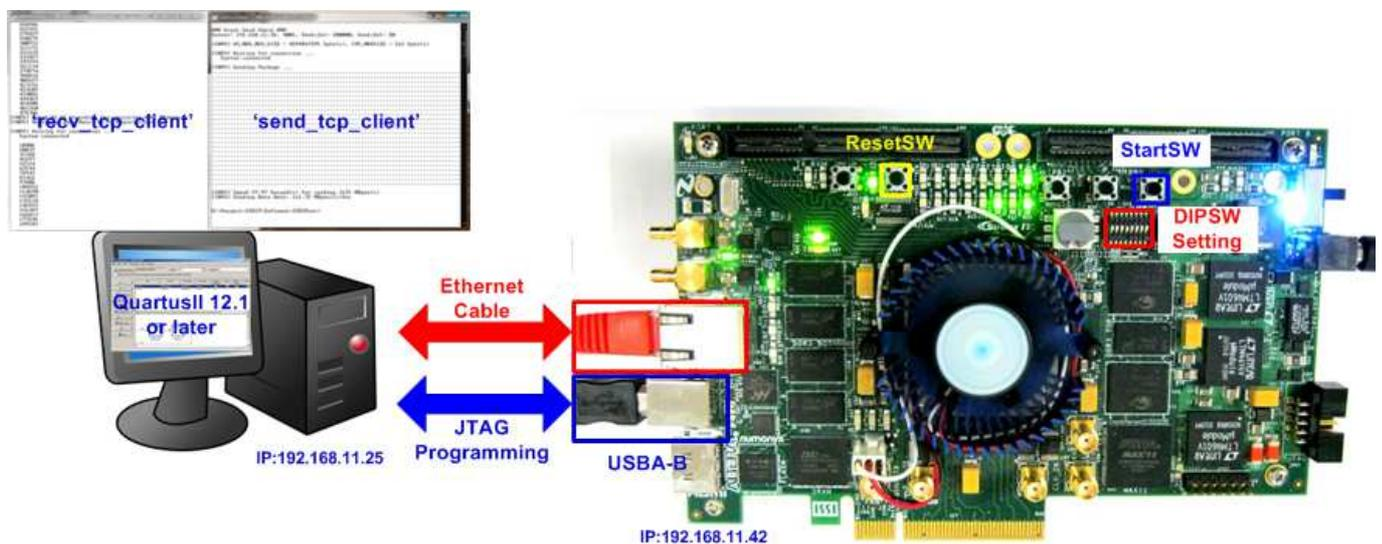
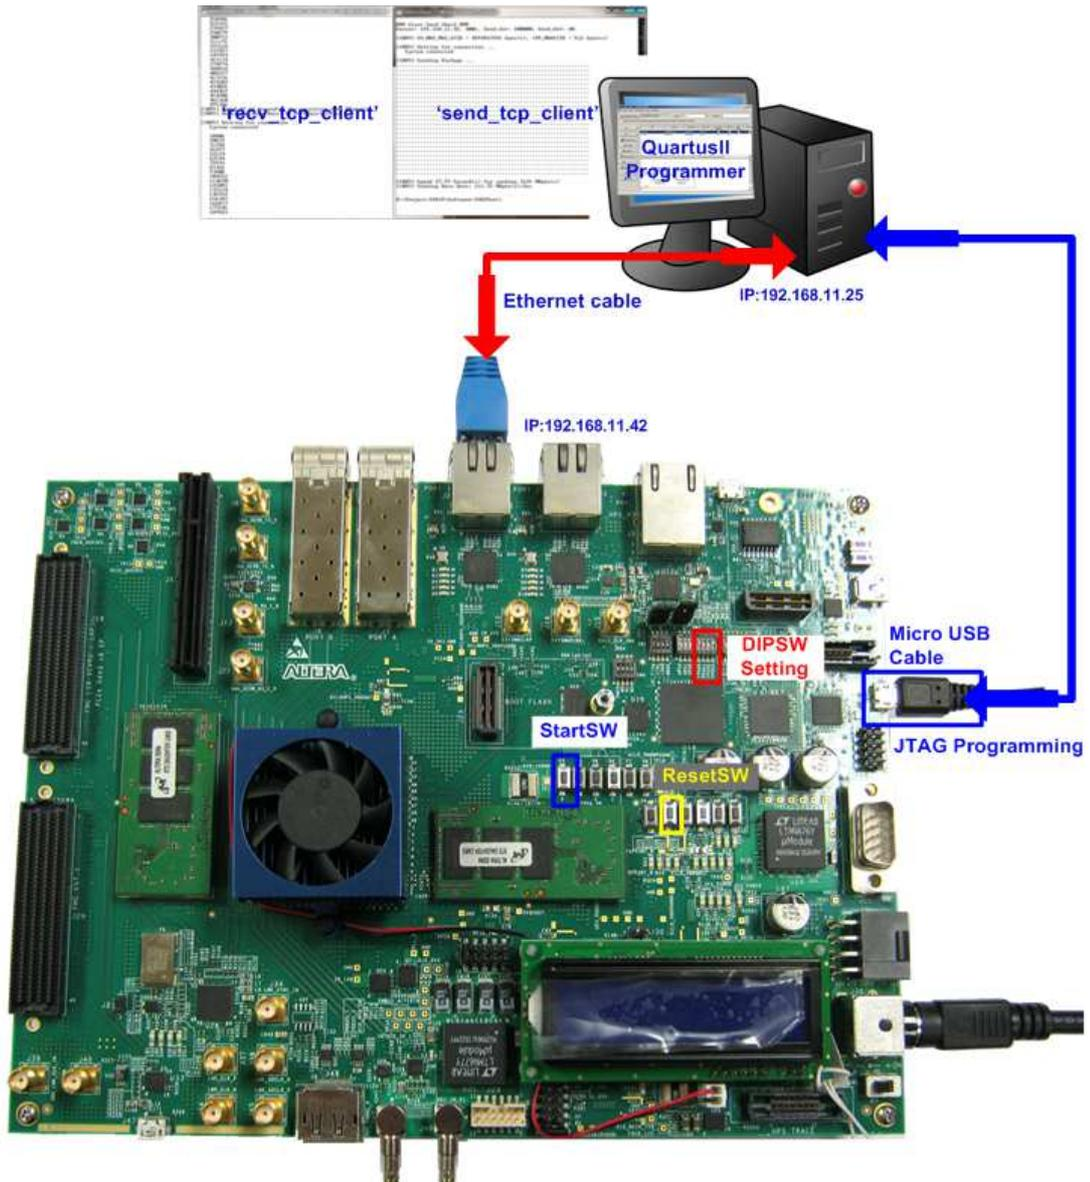
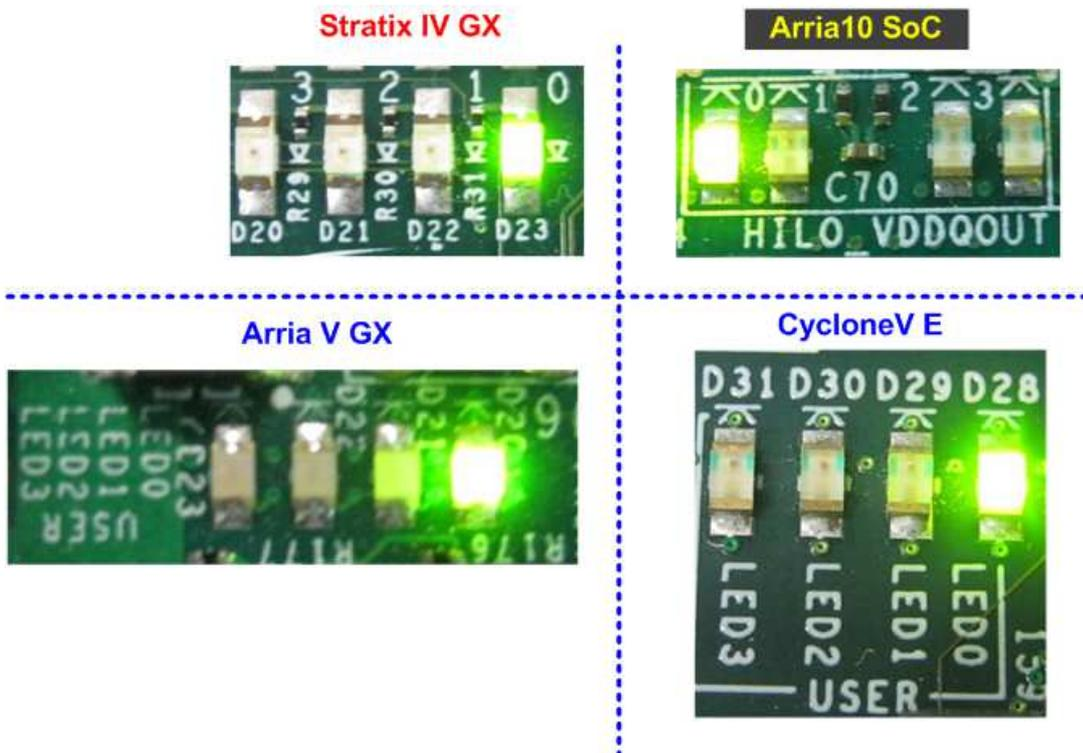
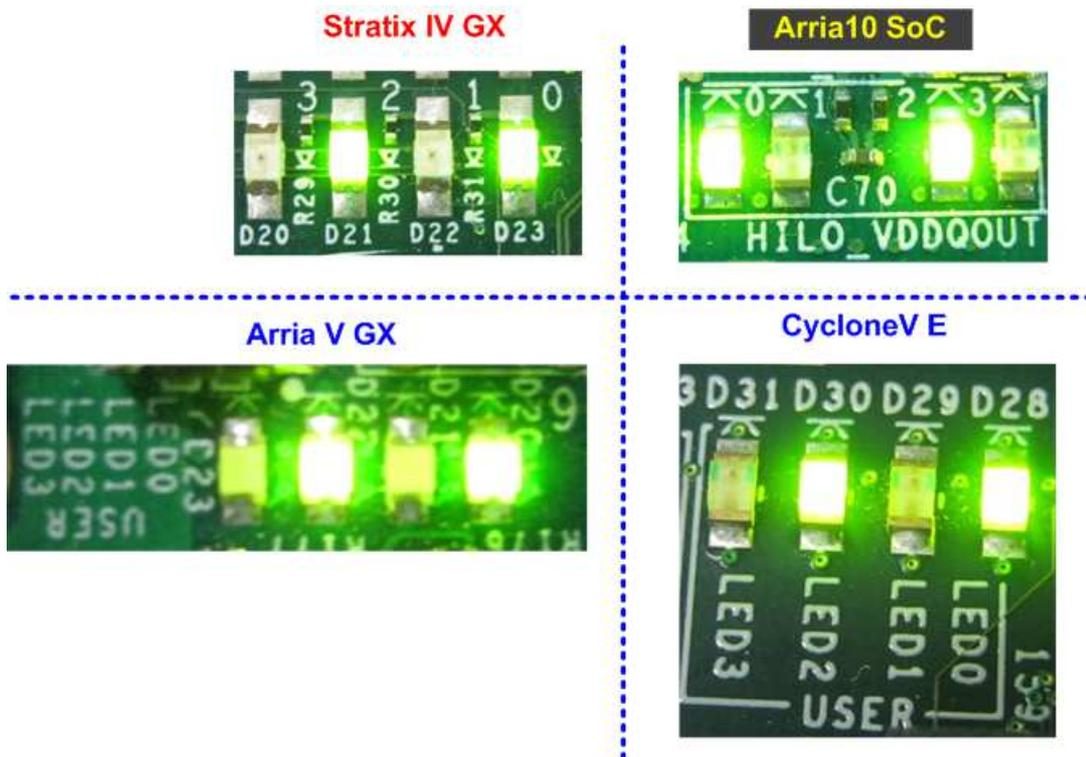

Figure 1-1 TOE1G-IP Demo Environment Setup on StratixIV GX board
Figure 1-4 TOE1G-IP Demo Environment Setup on Arria10 SoC board
Figure 4-3 LED Status after press StartSW when DIPSW[1]=ON for non-Jumbo frame
Figure 4-4 LED Status after press StartSW when DIPSW[1]=OFF for Jumbo frame
- As shown in Figure 1-1 - Figure 1-4, to run TOE1G-IP standard demo, please prepare
- Press StartSW at PB0-SW as shown in Figure 1-1 - Figure 1-4 to initialize system parameter, and then LED0 will turn on, as shown Figure 4-3 - Figure 4-4 following DIPSW[1] setting.